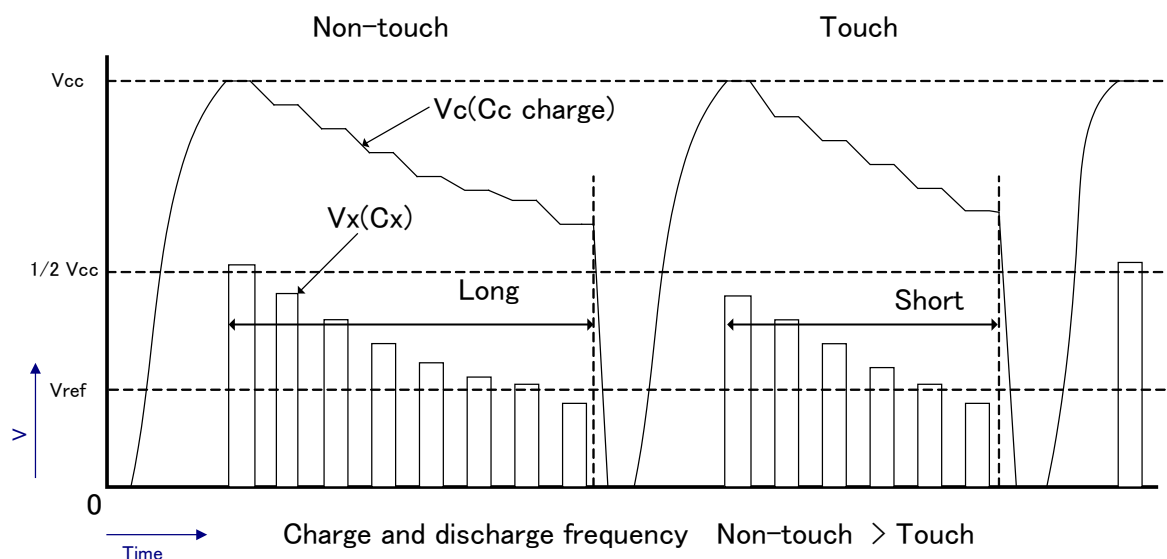

Figure 3-3 Wave outline of touch detection operation
Figure 3-3 shows a typical wave outline when touch detection operates. The rectangular shape waves shows changing voltage of C_x , and a mountain shape of waves is changing voltage of C_c . Voltage V_c decreases gradually as above-mentioned steps (3), (4), and (5) are repeated. Voltage V_x is the voltage shown by equation (c) in step (4), and 0V in step (3) since switch SW3 is closed. The number of cycles to reach $V_x < V_{ref}$ decreases when the capacitance of C_x increases by touch. The number of cycles is used to judge non-touch or touch.